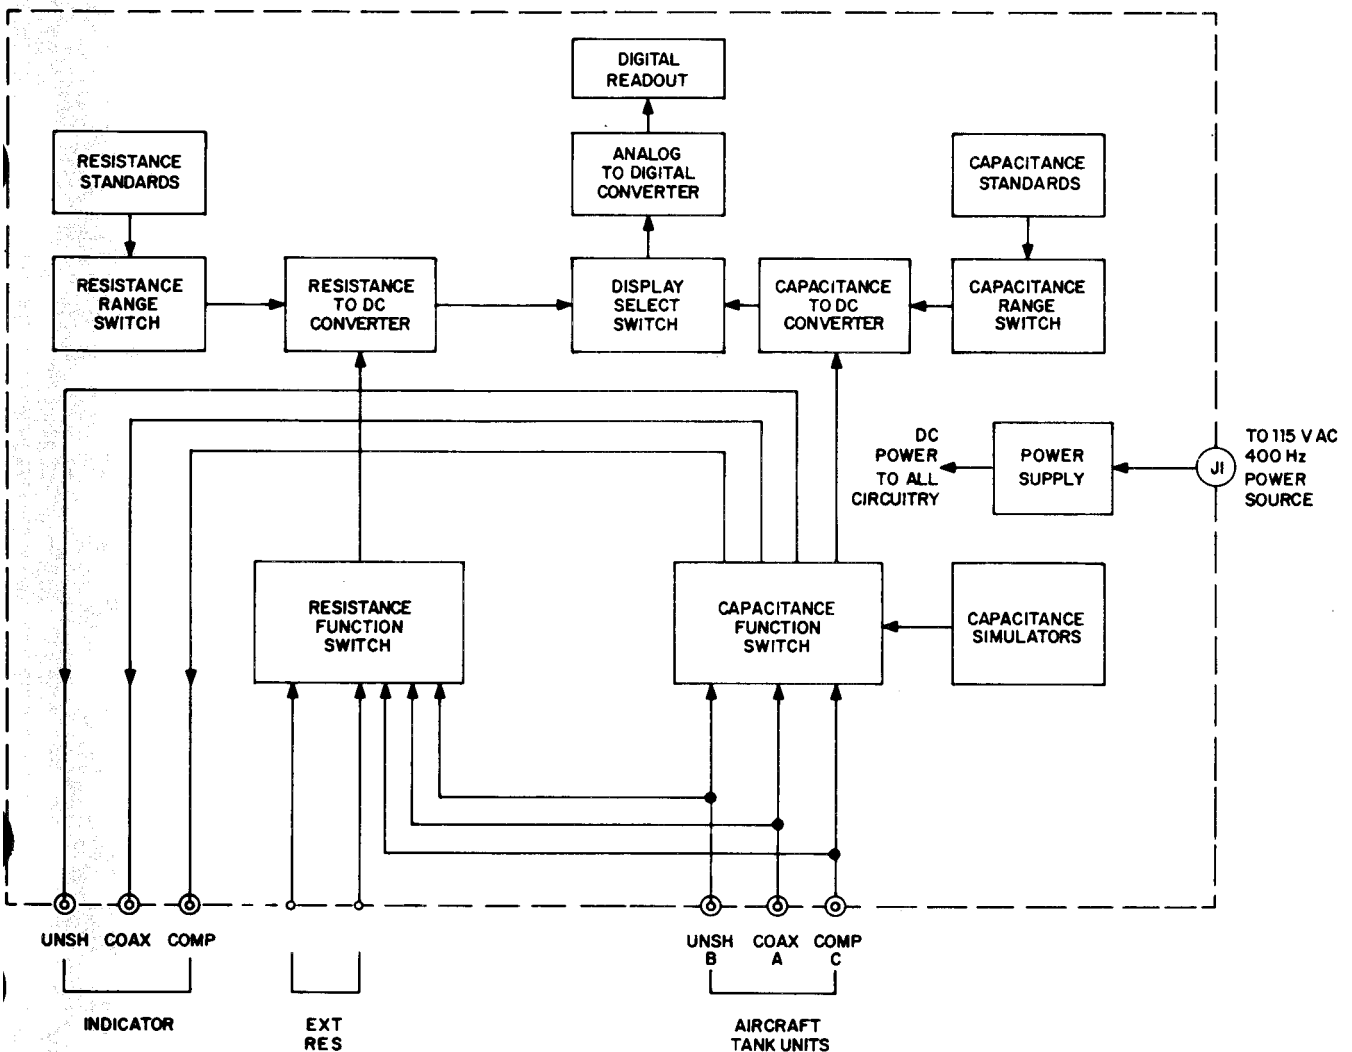

Figure 2-3. Test set, functional block diagram
a. Figure 2-3 is a functional block diagram of the Test Set. Primary power required for operation is 115 VAC, 400 Hz, which is converted by the Test Set power supply to the necessary dc voltages required to operate the electronic analog and digital circuits. The primary power enters the Test Set through connector J1.